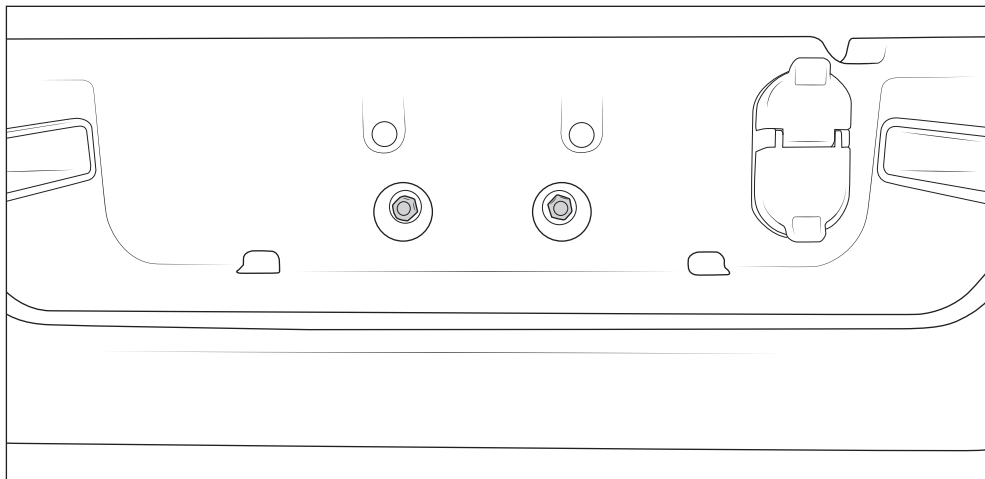

Figure 2
4. Remove the two center nuts (fig. 2).